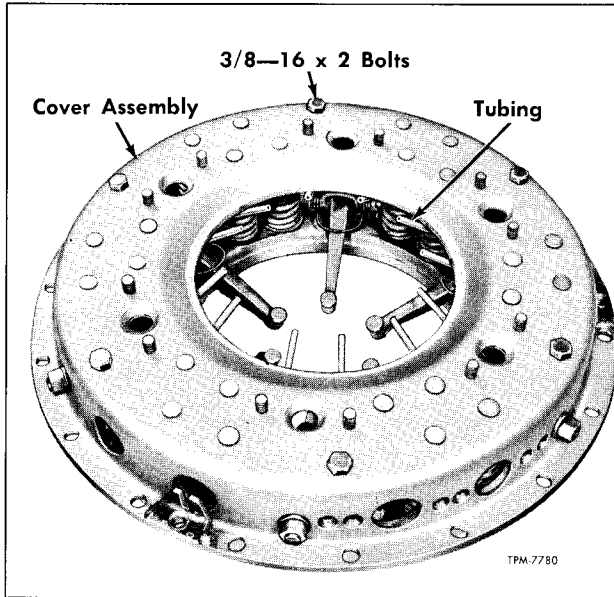

Figure 19—Installing Cover Plate on Pressure Plate
4. See that ends of springs (27) do not catch under cover. Pieces of tubing 1/4 inch by 4-1/2 inches long may be placed on spring ends shown in figure 19, to guide ends of springs past cover.
5. Install six bolts (3/8" - 16 x 2", fig. 19) through holes in cover plate, starting each bolt into tapped hole in pressure plate, then tighten al-